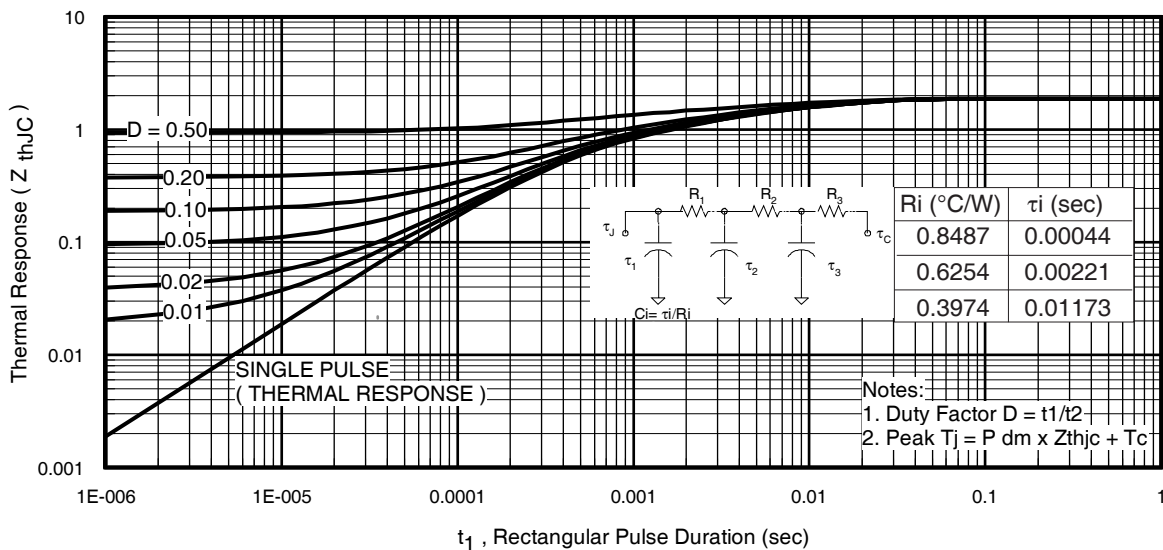
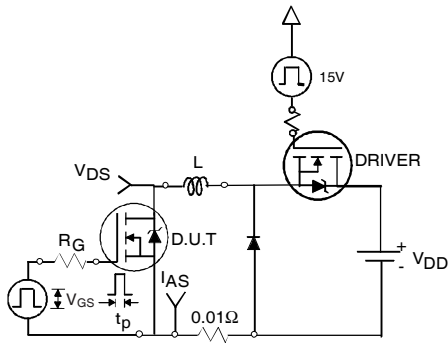

Fig 11. Maximum Effective Transient Thermal Impedance, Junction-to-Case
Fig 12a. Unclamped Inductive Test Circuit
- ① Repetitive rating; pulse width limited by max. junction temperature. (See fig. 11).
- ② Limited by T_{Jmax}, starting T_J = 25°C, L = 0.18mH, R_G = 25Ω, I_{AS} = 31A, V_{GS} = 10V. Part not recommended for use above this value.
- ③ I_{SD} ≤ 31A, di/dt ≤ 840A/μs, V_{DD} ≤ V_{(BR)DSS}, T_J ≤ 175°C.
- ④ Pulse width ≤ 1.0ms; duty cycle ≤ 2%.
- ⑤ C_{oss eff.} is a fixed capacitance that gives the same charging time as C_{oss} while V_{DS} is rising from 0 to 80% V_{DSS}.
- ⑥ Limited by T_{Jmax}, see Fig.12a, 12b, 15, 16 for typical repetitive avalanche performance.
- ⑦ This value determined from sample failure population. 100% tested to this value in production.
- ⑧ This is applied to D²Pak, when mounted on 1" square PCB (FR-4 or G-10 Material). For recommended footprint and soldering techniques refer to application note #AN-994.
- ⑨ R_θ is rated at T_J of approximately 90°C.
3. Equation below based on circuit and waveforms shown in Figures 12a, 12b.
$Z_{thJC}(D, t_{av})$ = Transient thermal resistance, see figure 11)